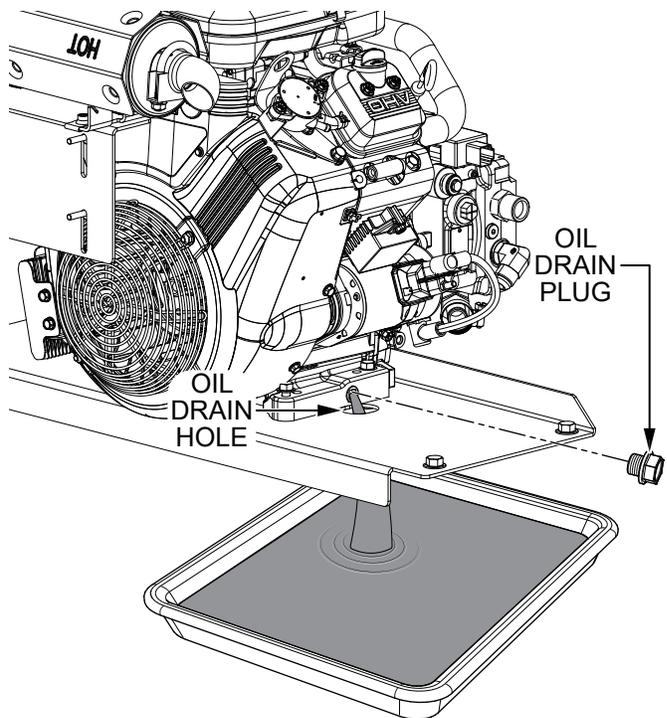

Figure 37. Draining The Engine Oil
5. Remove the **oil drain plug** (Figure 37) and allow the oil to drain through the **oil drain hole** into a suitable container.